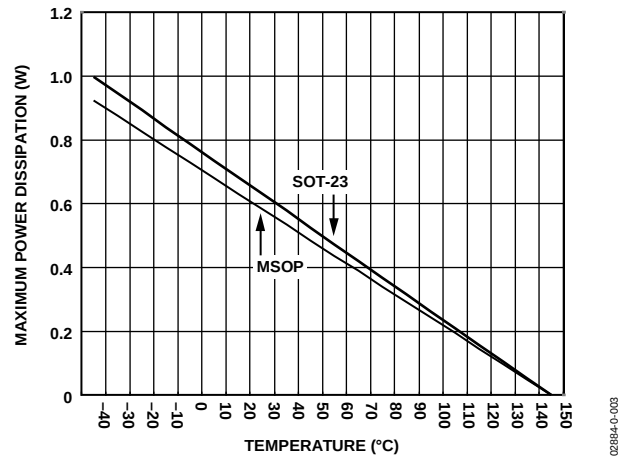

Figure 3. Plot of Maximum Power Dissipation vs. Temperature
Guaranteed by design and characterization, not production tested. All input signals are specified with  $t_r = t_f = 5\text{ ns}$  (10% to 90% of  $V_{DD}$ ) and timed from a voltage level of 1.6 V. See Figure 3.
1Values relate to the package being used on a standard 2-layer PCB. Reference Figure 3 for a plot of maximum power dissipation versus ambient temperature (TA).